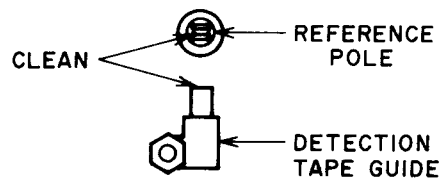

Fig. 9-2
**NOTE:** Clean the reference pole and the Detection tape guide before adjustment. (Refer to Fig. 9-2).